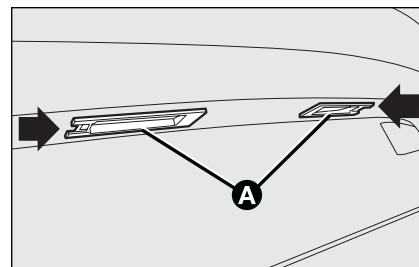

fig. 34
- work in the point shown by the arrow and remove lens unit **A-fig. 34**;